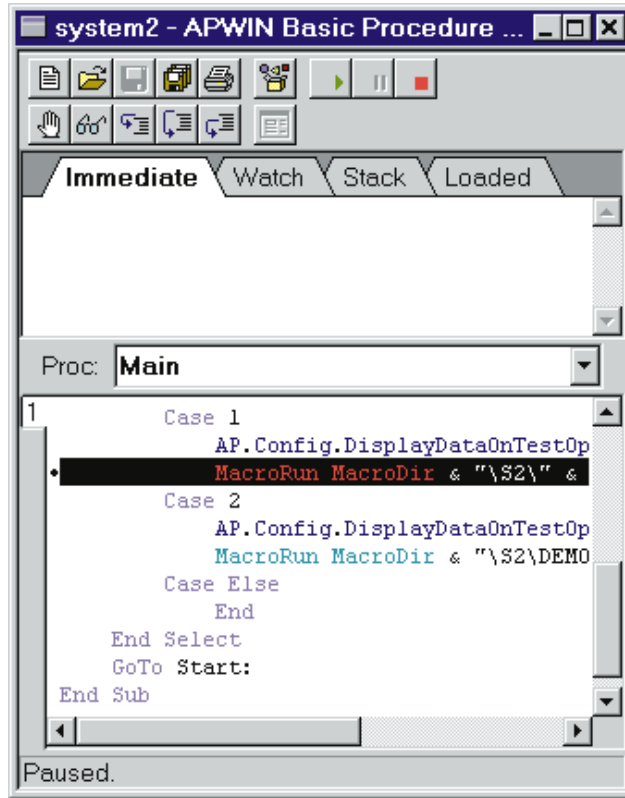

Figure 4-3
- The Debug window automatically appears in the procedure editor panel as shown in figure 4-3. The Debug window includes several different window panes that provide useful debugging information.
This will leave the Debug window visible in the Procedure Editor panel as shown in figure 4-3.